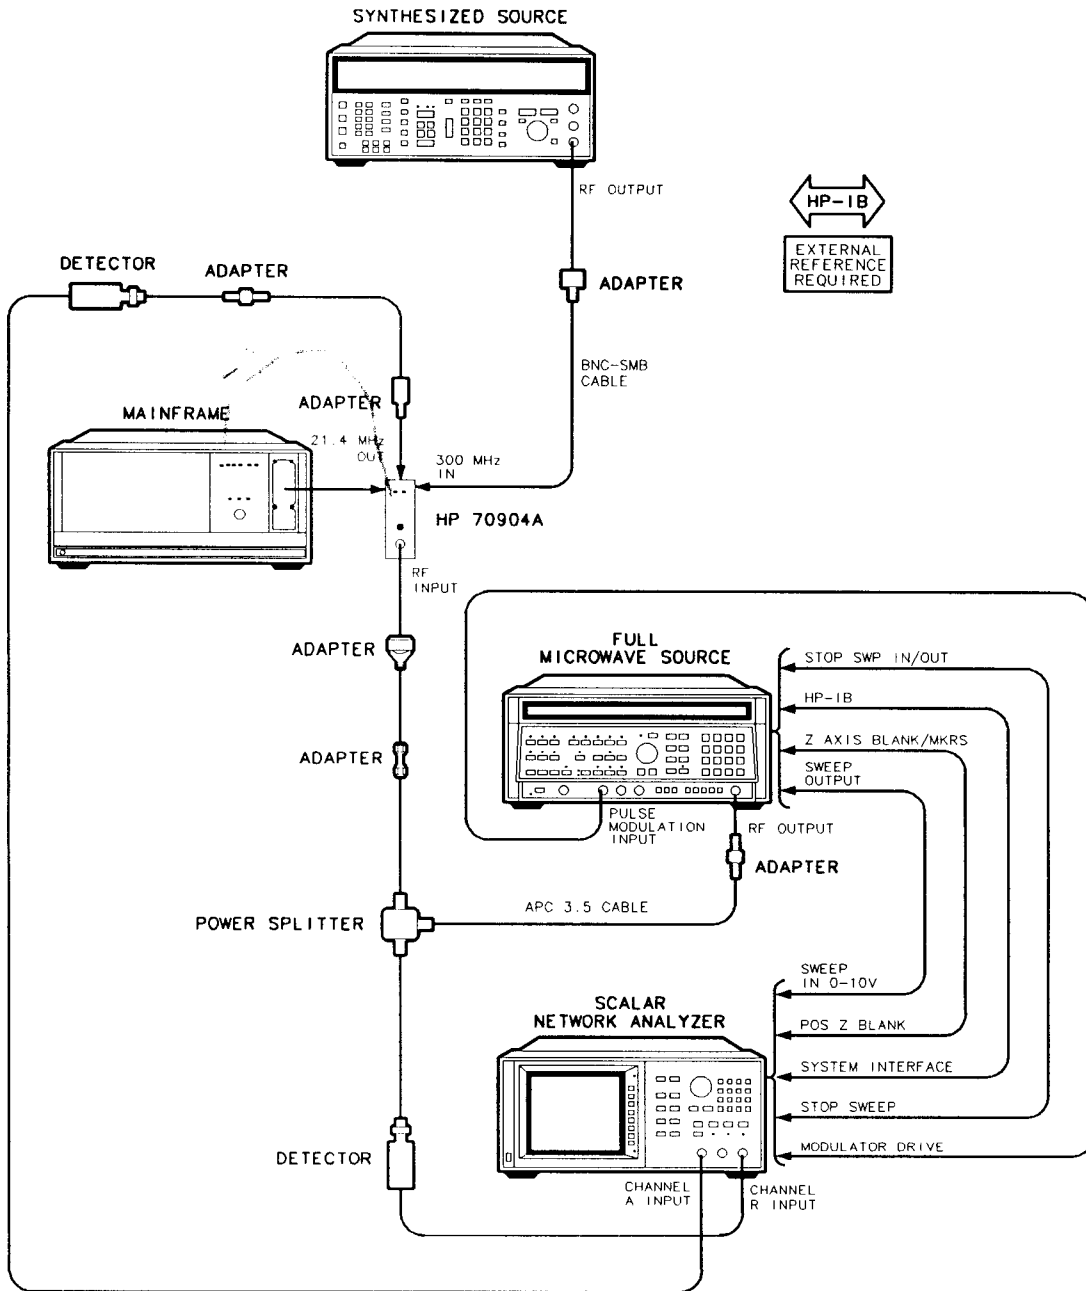

Figure 3-3. RF Flatness Calibration Setup
4. Connect the equipment as shown in Figure 3-3.